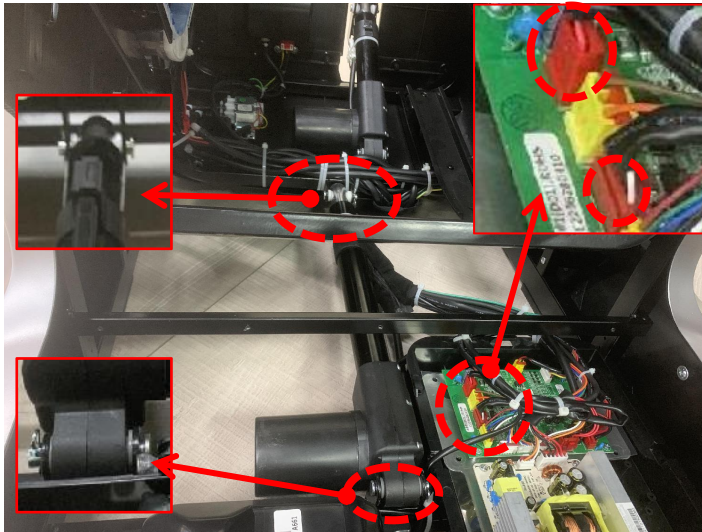

Figure 1
1. Remove the R-shaped bolt and pin shaft at the red ring, separate the backrest electric cylinder plug-ins (2 red plug-ins), and take out the backrest electric cylinder (Figure 1). Pay attention to the position of the isolation sleeve when disassembling